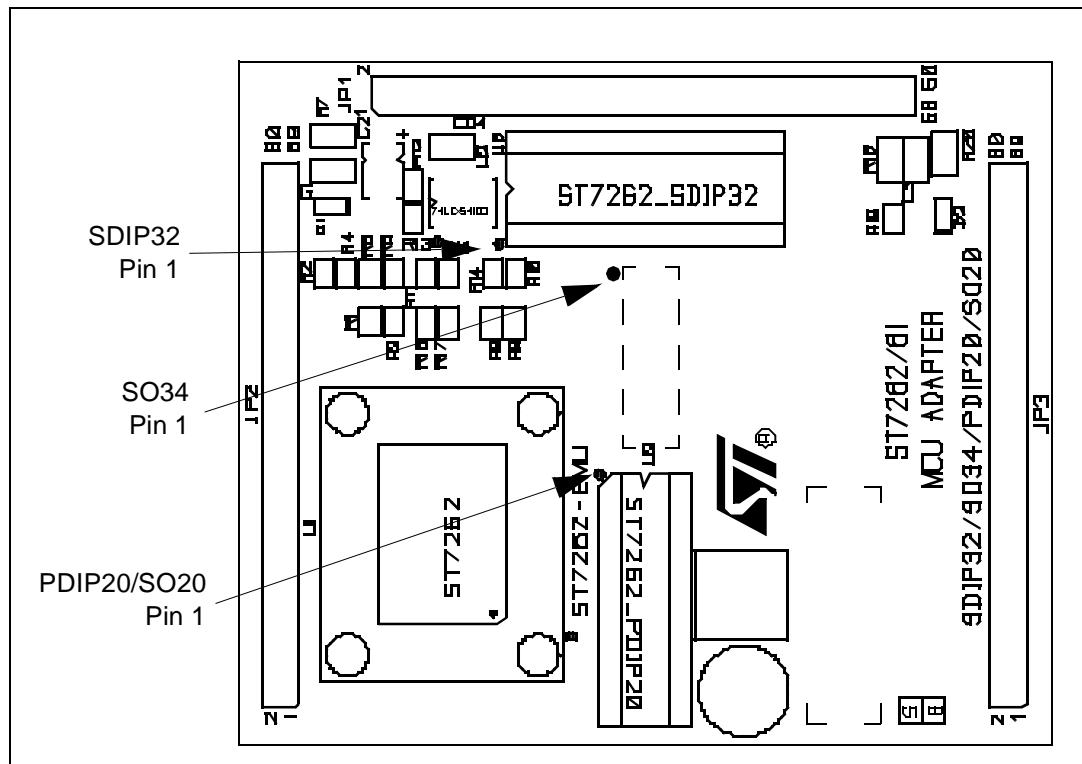

Figure 14: SO34/SDIP32/PDIP20/SO20 pin 1 location
- 3 Connect the probe to the SO34 device adapter, taking care to align pin 1 on the device adapter with the female pin 1 connector on the underside of the probe. On the SO34 device adapter, pin 1 is indicated by a chamfer on the adapter base. On the probe, pin 1 is indicated by a little arrow adjacent to the SO34 socket (U4)—refer to *Figure 14*.
- 3 Connect the probe to the PDIP20/SO20 device adapter (ref.: DB447), taking care to align the device adapter's female pin 1 connector with the male pin 1 on the underside of the probe. On the PDIP20/SO20 device adapter, the pin 1 position is indicated by a chamfer on the adapter base. On the probe, pin 1 is indicated by a little arrow adjacent to the PDIP20/SO20 socket (U3)—refer to *Figure 14*.
- 2 Connect the PDIP20/SO20 device adapter (ref.: DB447) to the PDIP20 socket (U3) on the underside of the SO34/SDIP32/PDIP20/SO20 Adapter Probe (ref.: DB445). Take care to align the device adapter's female pin 1 connector with the male pin 1 on the underside of the probe. On the PDIP20/SO20 device adapter, the pin 1 position is indicated by a chamfer on the adapter base. On the probe, pin 1 is indicated by a little arrow adjacent to the PDIP20/SO20 socket (U3)—refer to *Figure 14*.